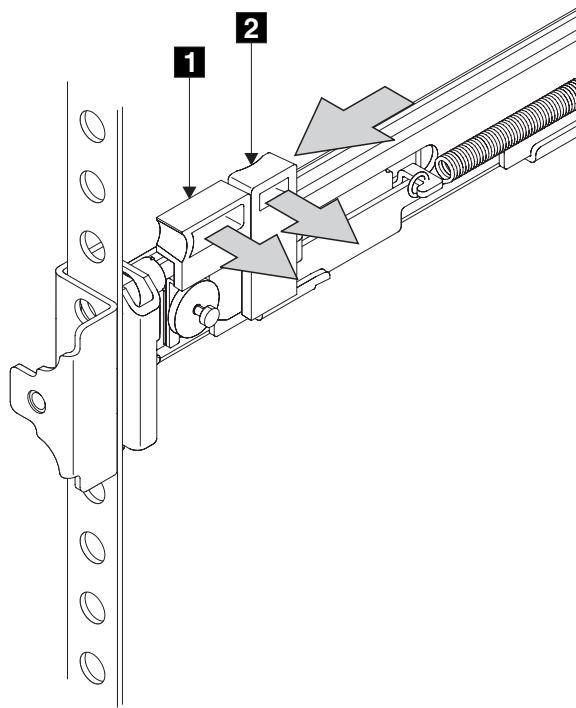

Figure 107. Closing the latch-lock carrier assembly
8. Push the latch lock **2** (Figure 107) away from the rail to release the carrier. The latch-lock carrier slides toward the front of the rack, and the locating pins project through the holes that are in the front flange and in the front rail bracket.